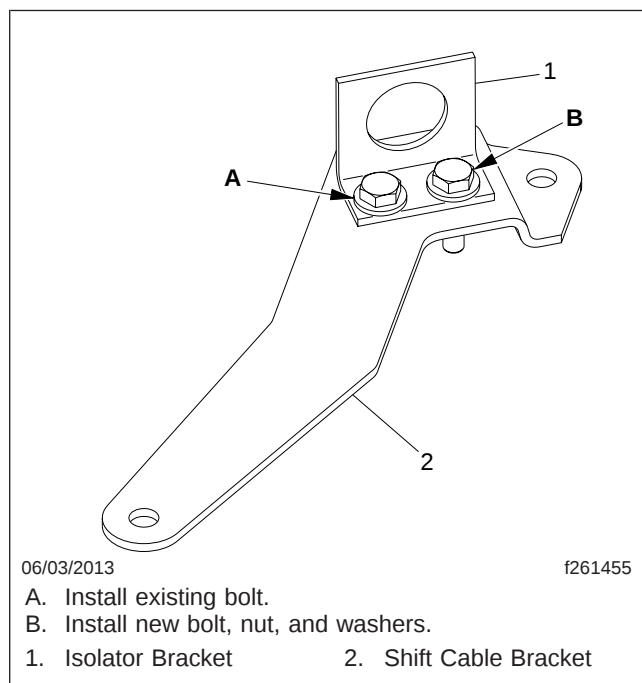

Fig. 4, Isolator Bracket Installation
8. Install the new bracket on the shift cable bracket, using the existing capscrew and the new bolt, nut, and washers. See **Fig. 4**. Tighten the existing capscrew 35 lbf-in (395 N-cm), and the new bolt 60 to 84 lbf-in (680 to 950 N-cm).